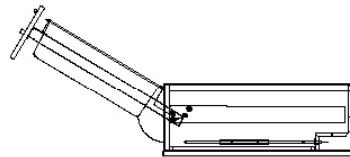

Figure 1
3. Thoroughly clean the unit before placing it in service. Remove the drawer by extending it fully then lifting slightly on the front of the drawer to clear the drawer stop. Replace the drawer by reversing this procedure. See Figure 1.